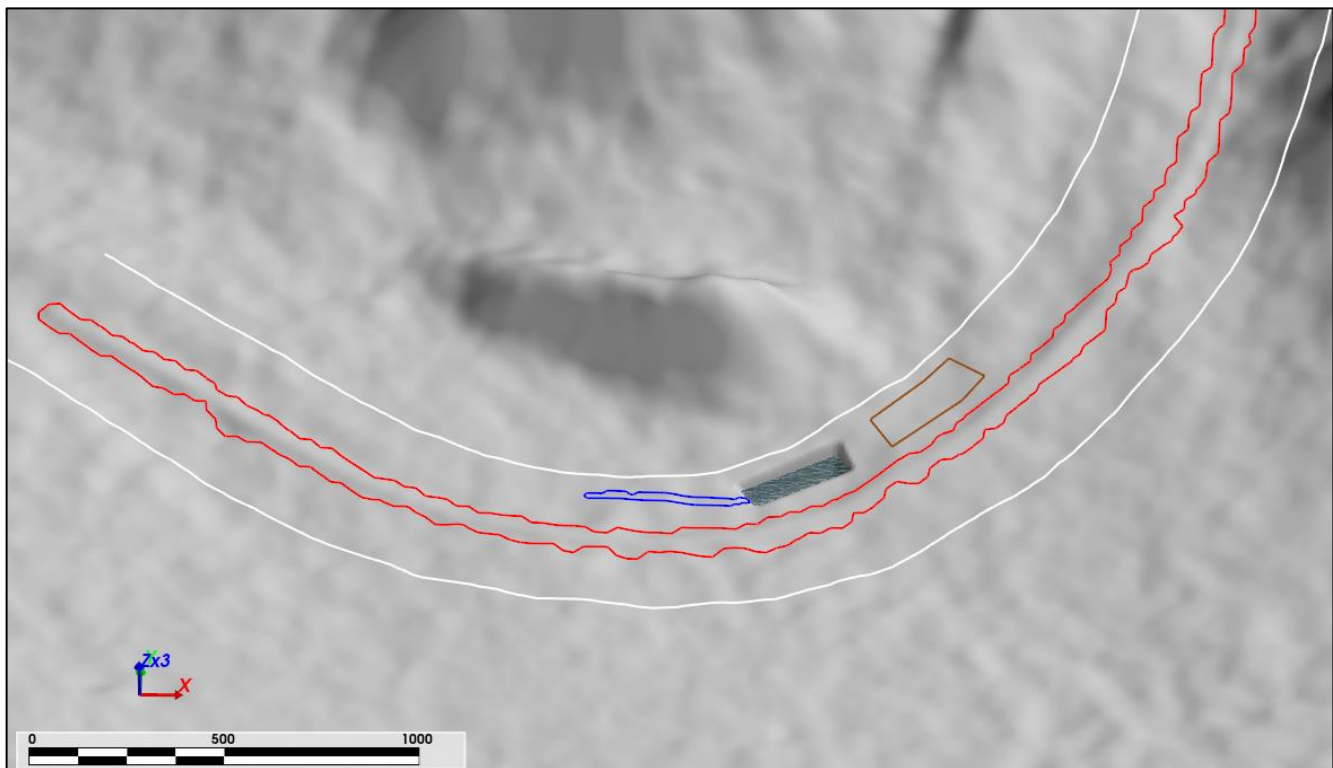
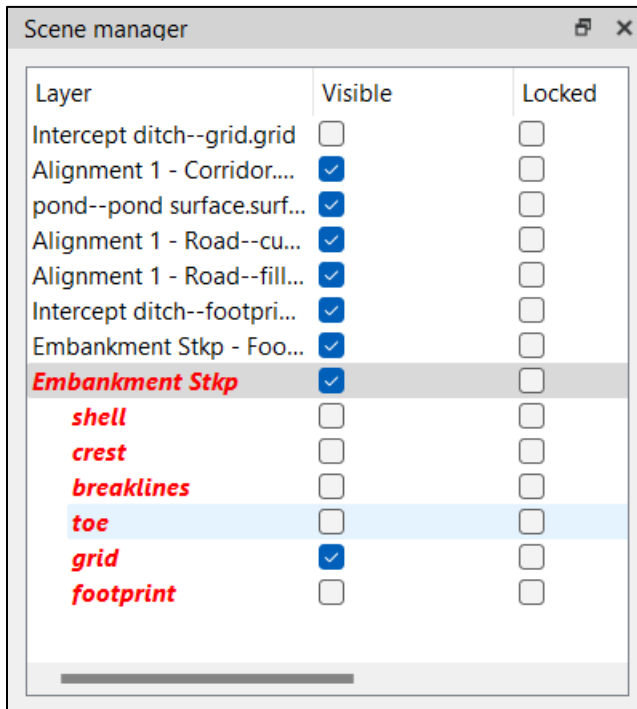

Figure 63: Initial footprint of Embankment material Stockpile (brown)
Figure 65: Dump from footprint generated files
Begin by creating a reasonably sized footprint in plan view. The elevation of the footprint is not a concern. The footprint simply needs to be appropriate in X and Y. Go to **Polyline > Create > Draw a line** (figure 63) and create a closed polygon. Once again, the elevation does not matter here but we recommend an elevation above the topography so that the polygon is visible over the topography.
Then, go to **Structures > Dump > Dump from footprint** (Figure 63). This will create a dynamic dump structure within the footprint of your polygon. Select an initial crest elevation that is reasonable. In this case, the topography's elevation, within the footprint, maxes out around 1605m. As a result, our initial *Crest Elevation (m)* is set at 1615m. You can also set the sideslopes. *Formation* will then generate the layers that can be seen, in red font, in Figure 65
2. Modify the input polygon seen in figure 63.